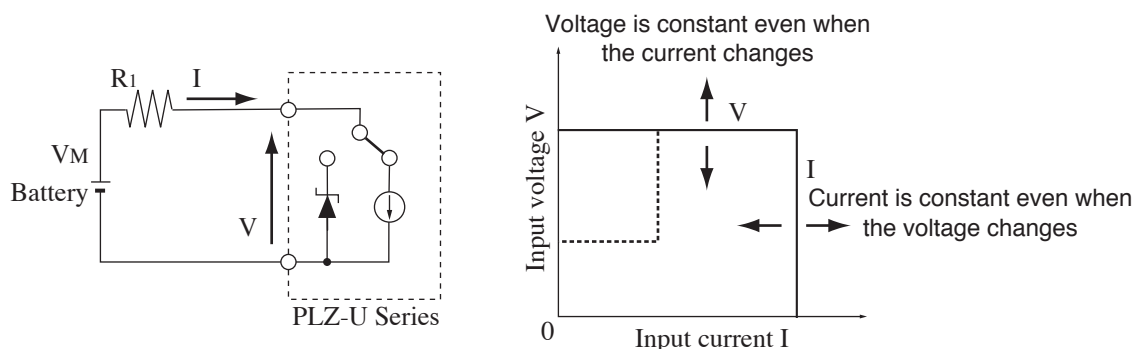

Fig. A-10 Equivalent circuit of the CC+CV mode and operation
When the PLZ-U is used in CC+CV mode, the PLZ-U operates as a constant current load and a constant voltage load (shunt regulator) as shown in Fig. A-10. When operating as a constant current load, the PLZ-U supplies the specified current (I) independent of the output voltage of the constant-voltage power supply (V_M). When operating as a constant voltage load and V_M is greater than V , the input voltage V is kept constant even when the input current I varies. Current does not flow when V_M is less than or equal to V .
We will consider the case when checking the discharge characteristics of a battery of Fig. A-10.